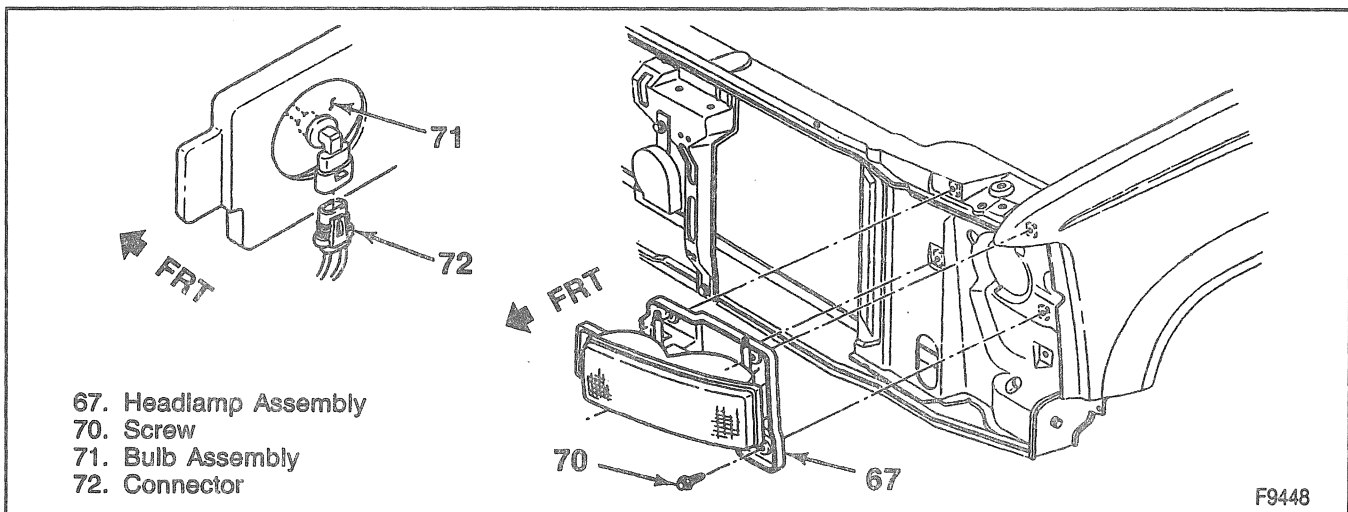

Figure 4—Composite Headlamp Assembly
2. Two long screws from the top of the radiator support (Figure 4).